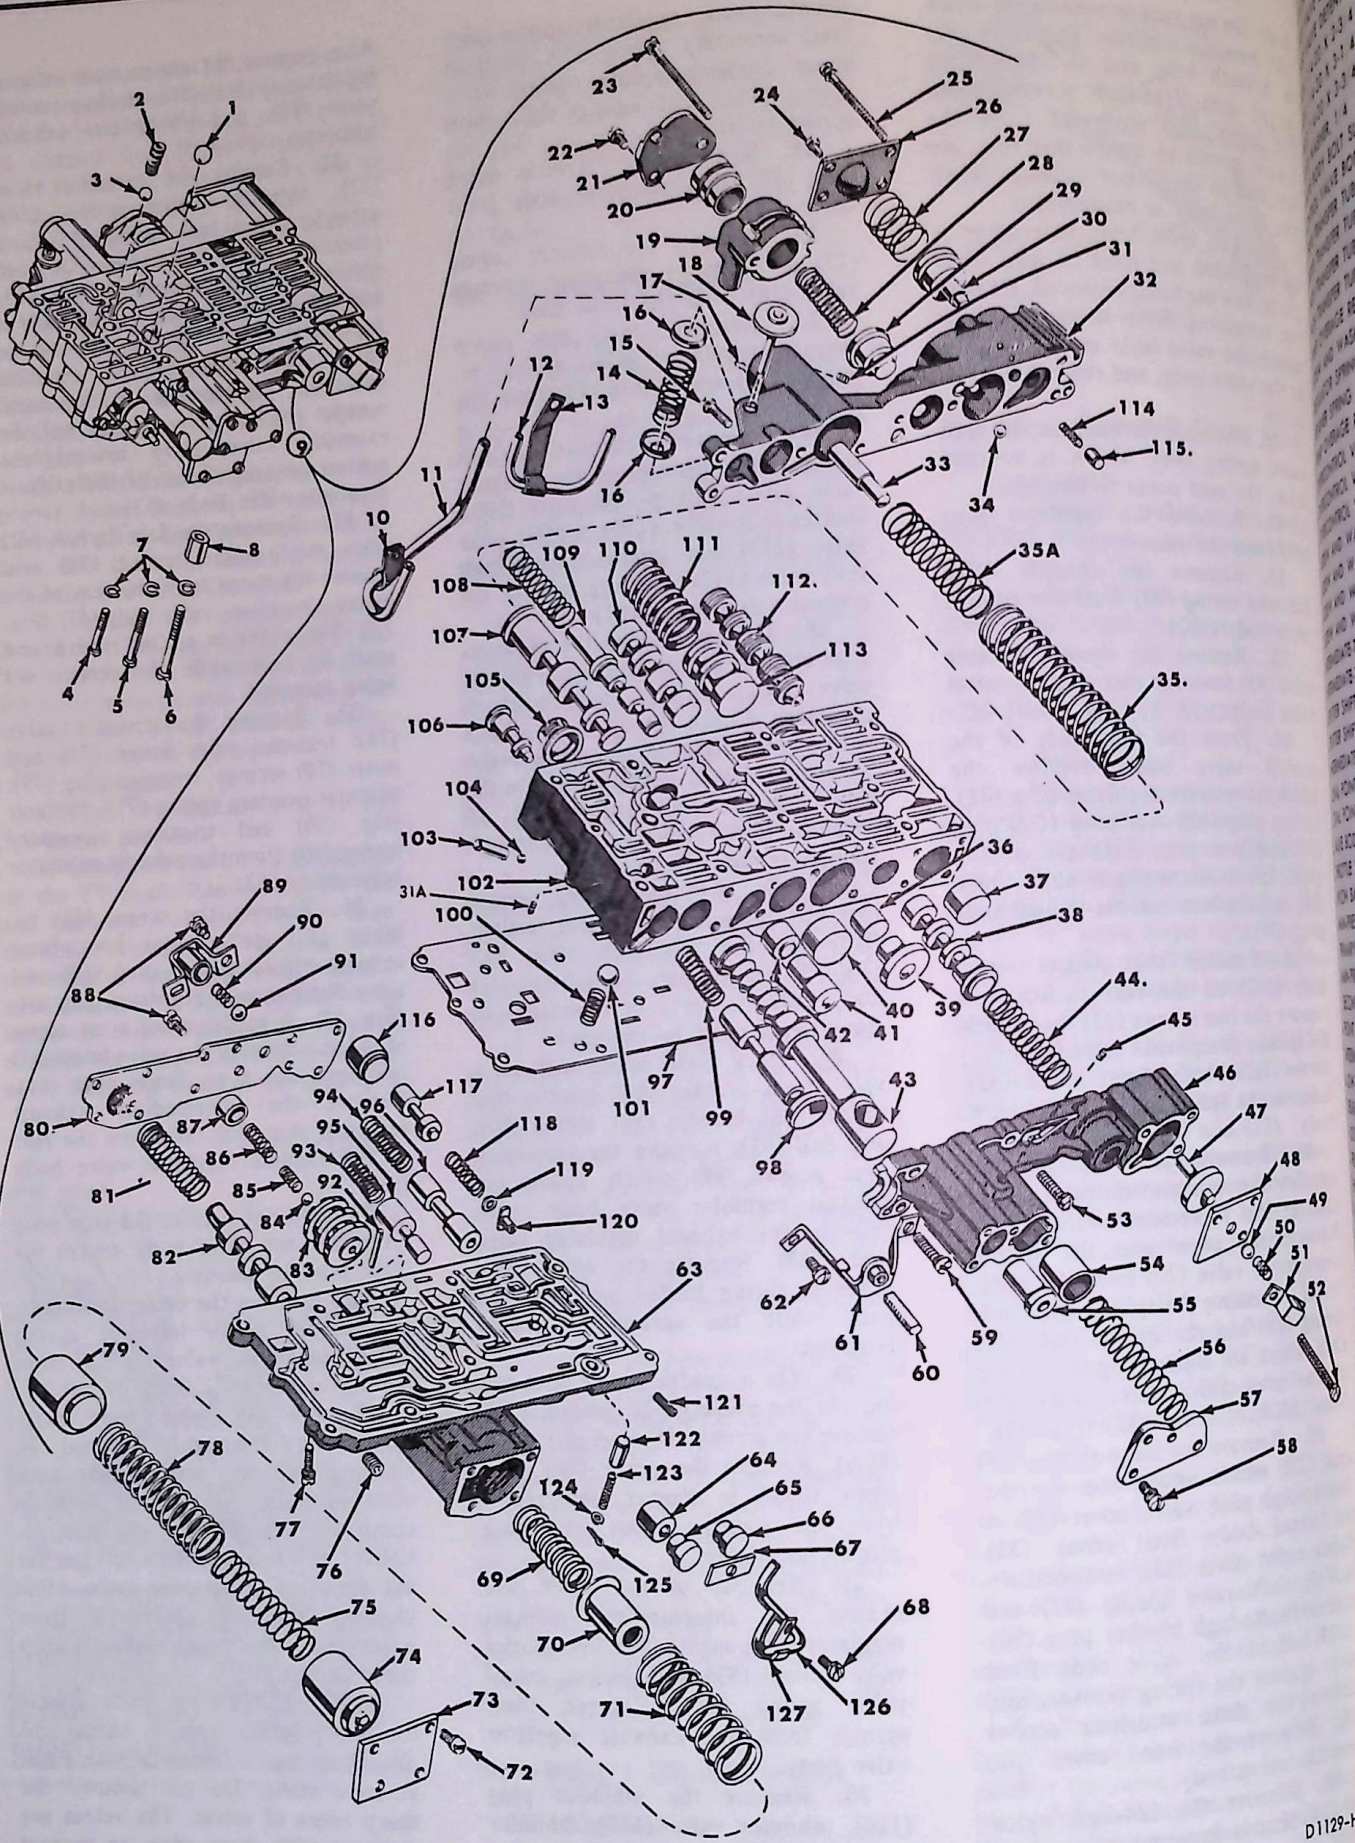

FIG. 25 Control Valve—Disassembled
2. Remove the screw (68) which retains the signal tube clip (127) (Figs. 25 and 26). Remove the clip and replace the screw finger tight. Remove the screws (88) and (24) that retain the drive and high transfer tube clips (10) and (13).
3. Remove the signal tube (126) and transfer tubes (11) and (12) with the clips attached. Do not remove the clips from tubes (11) and (12).
4. Remove two screws (77) that retain the exhaust regulator valve body (63) to the control valve body (102). Remove the exhaust regulator valve body.
5. Remove the selector valve detent spring (100) and lift the valve body separator plate (97) off the control valve body (102). Remove the 3/8 inch steel detent ball (101) from the valve body.
6. Remove three screws (52) that attach the accelerator plug cover (48). Some models use a bracket (51), spring (50) and ball (49), retained by two screws (52). If the valve body has these parts, remove them. Remove the accelerator plug cover and the accelerator plug (47).
7. Remove the four screws (58) from the regulator cover (57) and remove the cover, lockup knockdown plug (55), accumulator valve spring (56) and the accumulator valve (54).
8. Remove the two screws (59) and (62), and remove the throttle valve retainer (61) from the valve
9. The valve body rear cover is spring-loaded and must be held while the screws are being removed. Remove the remaining three screws (53) that attach the valve body rear cover (46) to the valve body, and remove the rear cover.
10. Remove the intermediate shift valve spring (44), which is exposed when the rear cover is removed.
11. Remove the regulator plug (41) from the rear cover.
12. Remove the throttle valve (98) and spring (99) from the control valve body (102).
13. Remove the manual selector valve (43) from the rear of the control valve body.
14. From the same side of the control valve body, remove the hydraulic retarder regulator plug (42), lockup plug (40), rear pitot (G2) plug (39) and front pitot (G1) splitter plug (36), low-to-intermediate shift valve (38) and the intermediate-to-high shift plug (37).
15. Position the control valve body (102) on the rear surface and remove the two screws (23) that attach the splitter overcontrol valve body (19) to the valve body front cover (32). Remove the splitter overcontrol valve body.
16. Remove the screw (22) that attaches the overcontrol valve cover (21) to the overcontrol valve body. Remove the cover and the splitter overcontrol valve (20) from the body.
17. Remove the splitter shift plug spring (28) and the splitter shift plug (29), which are exposed upon removal of the overcontrol valve body (19) from the front cover (32) (Fig. 25).
18. Remove the three screws (24) and (25) which attach the intermediate-to-high shift valve cover (26) to the valve body front cover (32). Remove the cover (26), intermediate-to-high shift valve spring (27) and intermediate-to-high blocker plug (30).
19. Hold the valve body front cover against the spring pressure and remove the three attaching screws (15). Remove the front cover (32) from the valve body.
20. Remove the 1/4-inch nylon ball (34) that is loose when the front cover is removed. Remove the inhibitor valve (115) and the spring (114) from the cover (32). Remove the